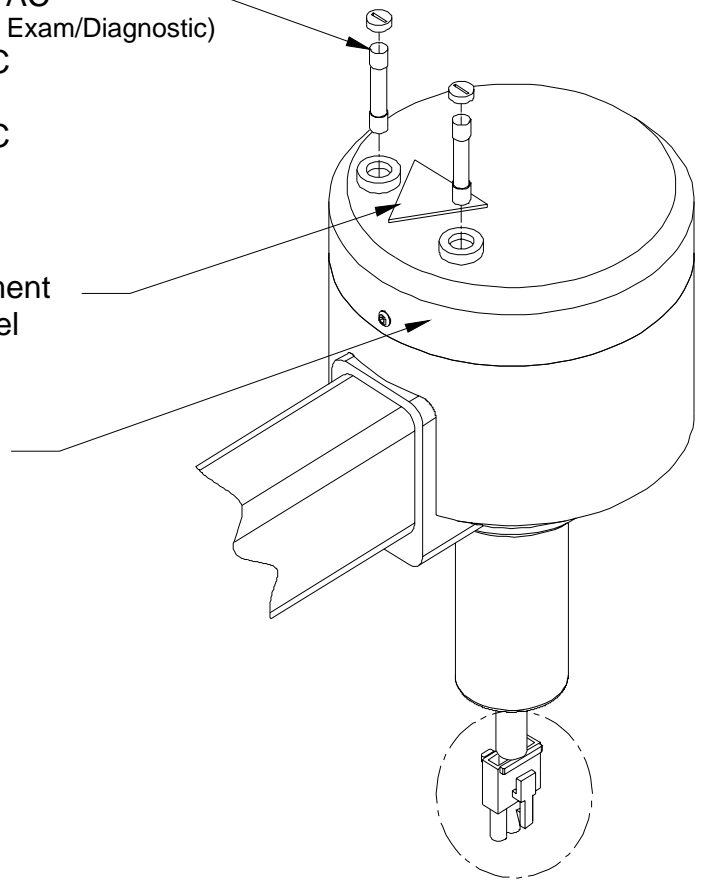

FIGURE 36: Fuse Replacement
- See figure 36 for fuse location.